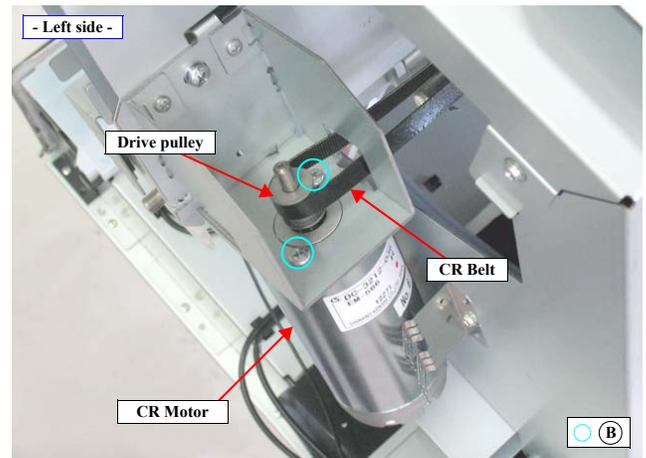

Figure 4-68. Removing the CR Motor
11. Remove the two screws that secure the CR Motor, and remove the CR Motor. See Figure 4-68.